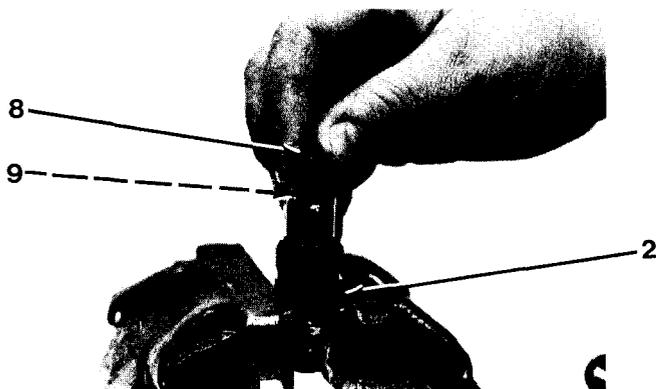

Figure 7-12
2. Position injector nozzle (2) in a soft-jawed vise. Install pressure spring (9) and pressure spindle (8, Figure 7-12) in injector nozzle (2).